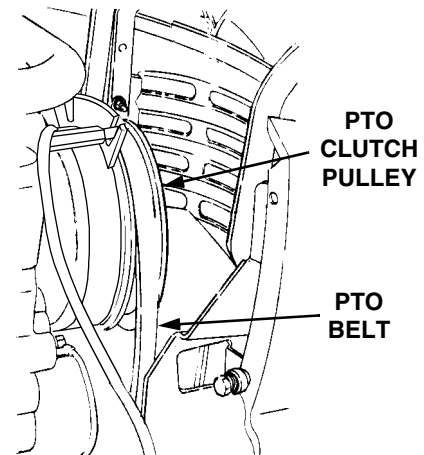

Figure 59
- Install the forward end of the PTO belt on the PTO clutch pulley by passing the belt upward inside the front of the tractor frame. Ensure that the narrow side of the PTO belt engages the groove of the clutch pulley (Refer to Figure 59).